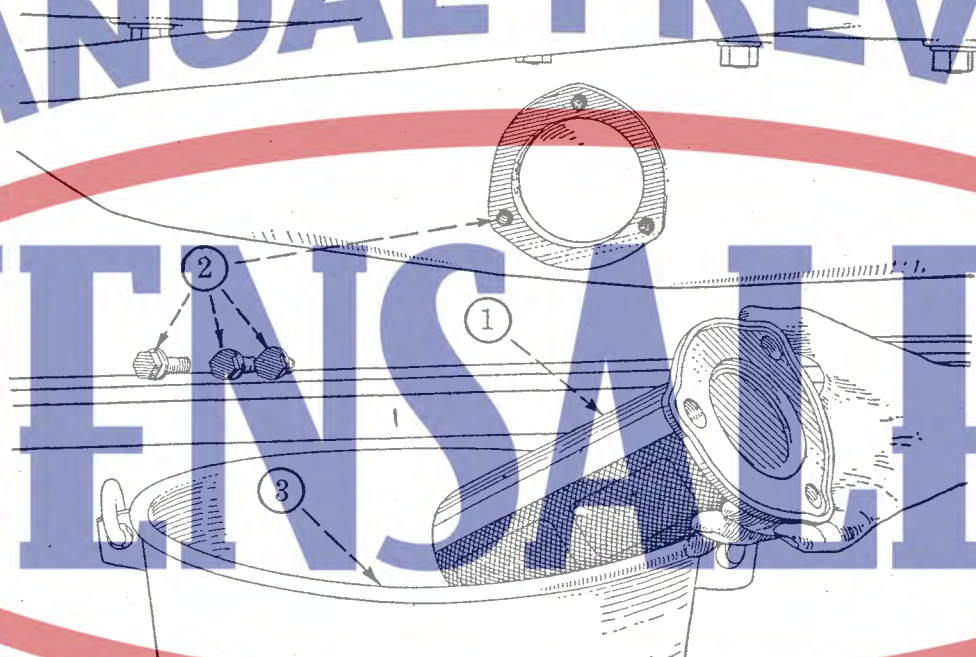

Fig. 7 Cleaning Oil Pump Screen
Caution—To remove the oil pan for cleaning it is necessary to drop the radius rod and remove the screen from around the oil pump before hand. Refer to Fig. 7 and instructions as follows:—
Oil Pump and Screen—Refer to B Fig. 6, also to Fig. 7.
1. Fig. 7. About every thirty days of operation it is advisable to remove the oil pump screen and clean thoroughly.
2. Fig. 7. To take out screen remove the three cap screws and this will allow withdrawal of the screen and cap as a unit. Be careful to avoid damage to gasket under the cap or to the screen.
3. Fig. 7. Rinse the screen in a pail of gasoline to remove all dirt, water or other foreign matter. A dirty screen will not allow oil to flow to the pump intake and the oil gauge will not show pressure and burnt out bearings will surely result.